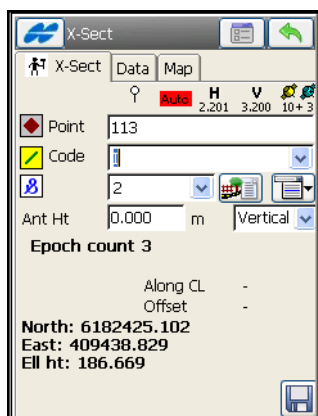

Figure 8-29. Cross-Section Accept
3. On the ***X-Sect*** screen (Figure 8-29 on page 8-32) perform the usual observation work relative to the cross-section, as described in “Performing a Topo Survey” on page 8-20.